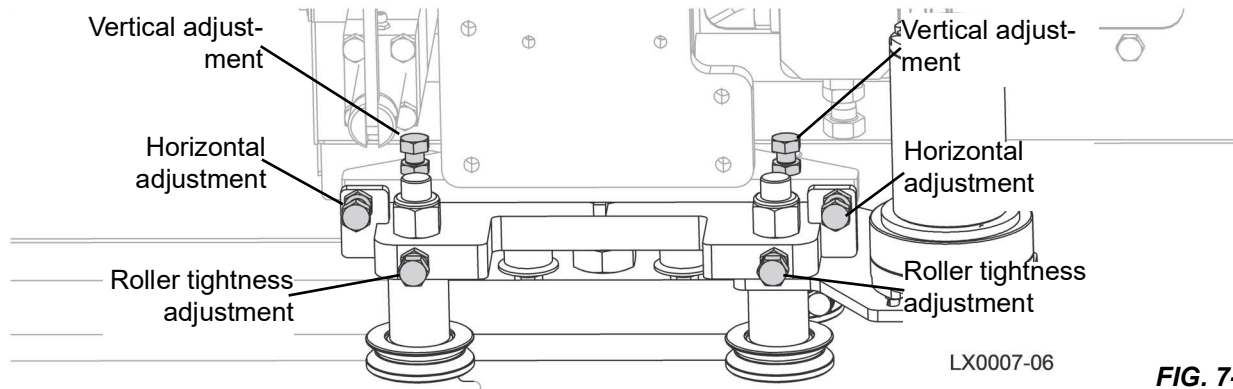

FIG. 7-3
3. If loose, tighten the adjustment bolts on the front of the blade guide mount by loosening the jam nut, tightening the adjustment nut, and retighten the jam nut. (See FIG. 7-3.)
6. Loosen the horizontal adjustment bolt jam nuts. (See FIG. 7-3.)
13. Loosen the vertical adjustment bolt jam nuts. (See FIG. 7-3.)